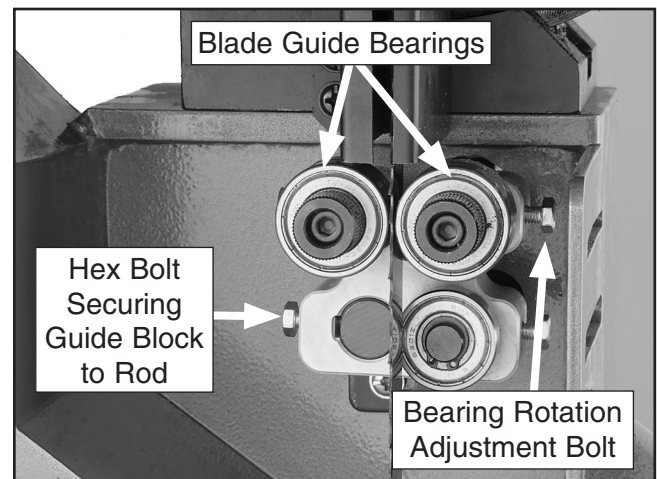

Figure 11. Lower blade guide assembly (front view).
4. Loosen the hex bolt that secures the lower guide block assembly to the lateral adjustment rod (**Figure 11**), then remove the rod and lower guide block assembly.
—If you have difficulty sliding the assembly out, loosen the bearing rotation bolts (**Figure 11**) and rotate the bearings outward to make it easier to slide the guide block out.